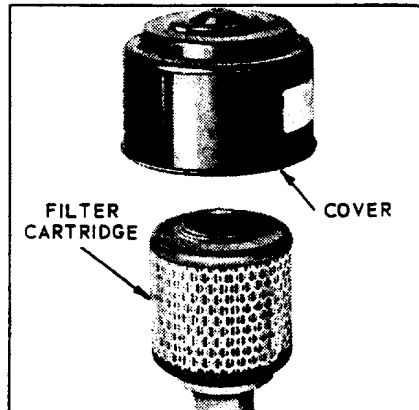

Fig. 9, DRY TYPE AIR CLEANER
**AIR CLEANER - DRY TYPE, Fig. 9**